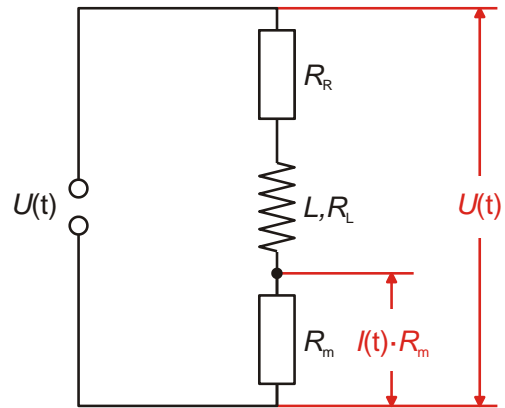
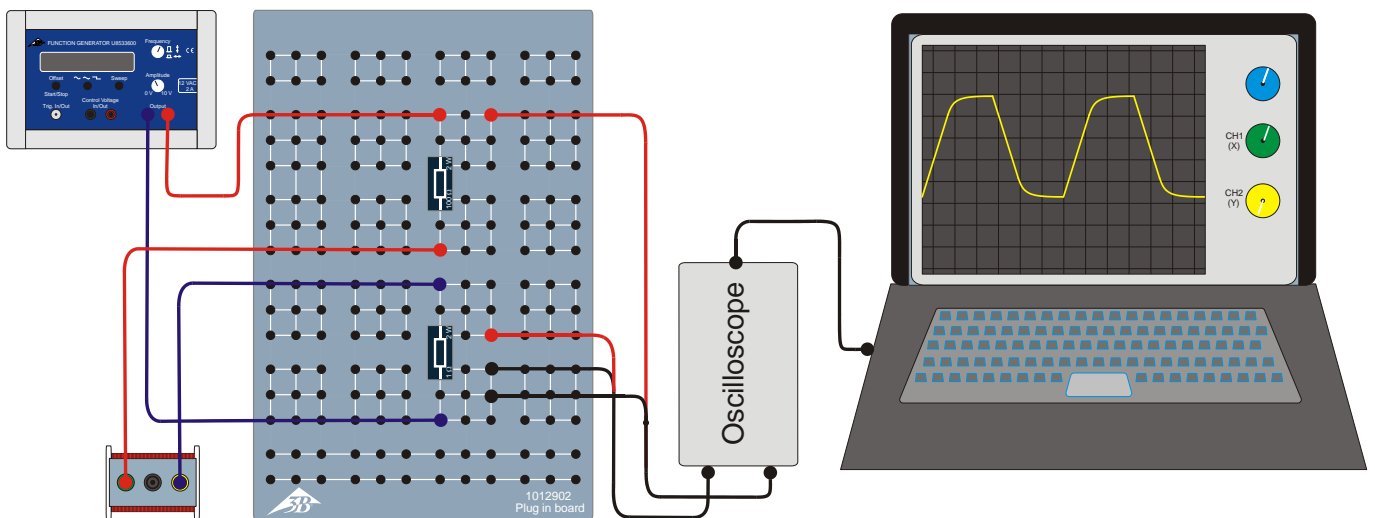

Fig. 3: Sketch of circuit
Fig. 2: Sketch of experiment set-up
- Set-up the apparatus as shown in Fig. 2.
- Assemble the circuit shown in Fig. 3 on the plug-in board.
- Plug one of the 23 mH coils with 1200 windings and the measurement resistor  $R_m = 1 \Omega$  into the plug-in board as shown in Fig. 2 and Fig. 3. Initially plug in a jumper in place of one test resistor  $R_R$ .